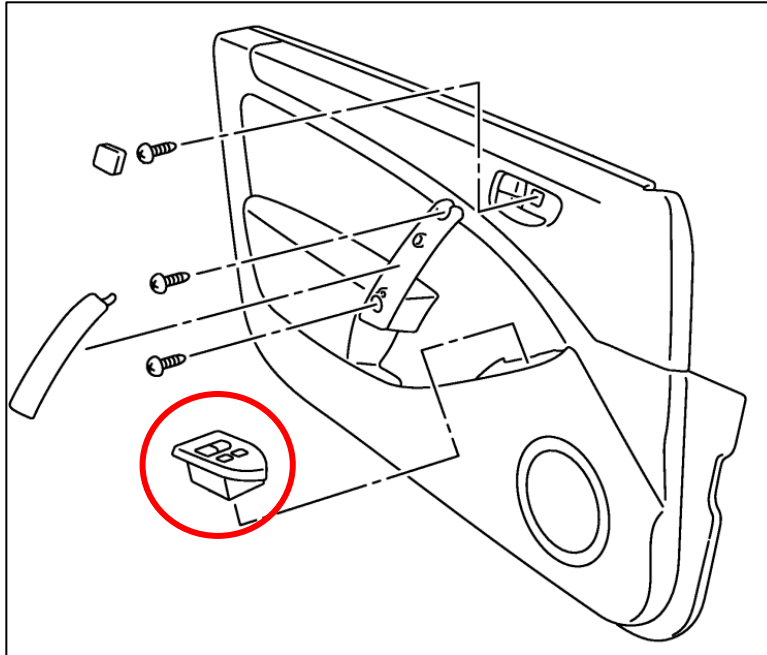

Figure 12
5. Pry up the Door Control Panel using a Trim Removal Tool. *Figure 12.*